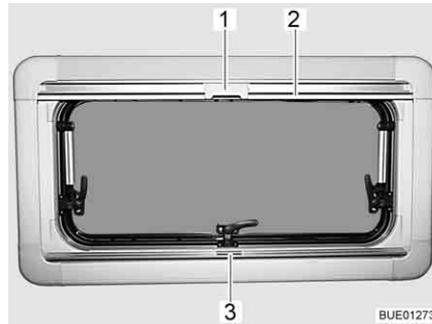

Fig. 85 Hinged window
- Grip the Roman shade in the centre of the holding bar (Fig. 85,3), pull it from the bottom to the top and then release it at the desired height. The Roman shade will stay at this height.
- Pull the insect screen down using the holding bar (Fig. 85,2), until it touches the holding bar of the Roman shade (Fig. 85,3).
- Clip the catch (Fig. 85,1) on the insect screen into the handle of the Roman shade.
- Push the catch (Fig. 85,1) on the insect screen inwards.
- Move the insect screen back slowly on the holding bar (Fig. 85,2).